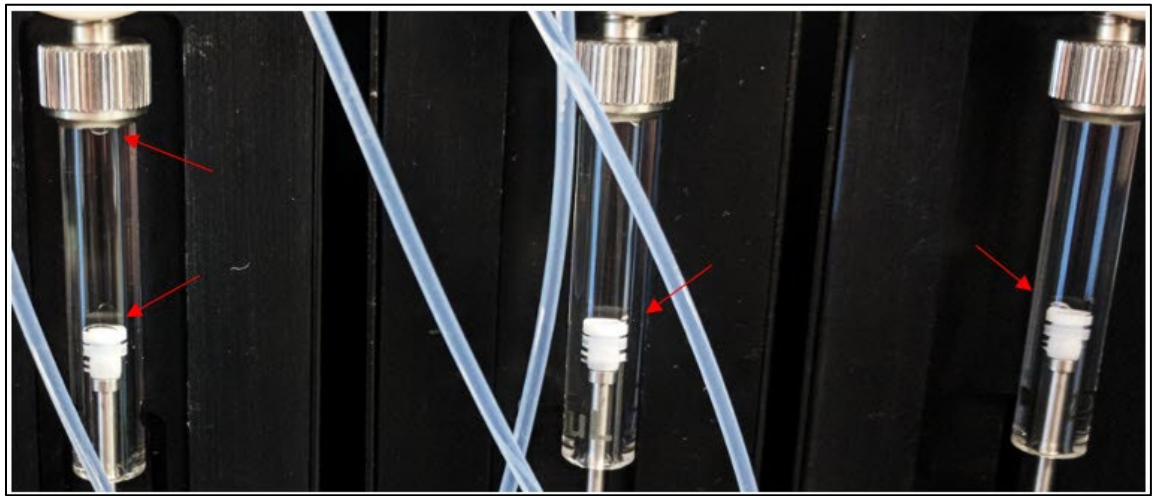

Figure 59. Example of large bubbles in syringes.
**NOTE:** If large bubbles are still observed in syringes or tubing (Figure 59) after three warmup cycles, we recommend priming the system tubing with isopropyl alcohol. Continue to Section VIII.D for the priming protocol. If there are no large bubbles observed in the syringes or tubing, skip to Section VIII.E.